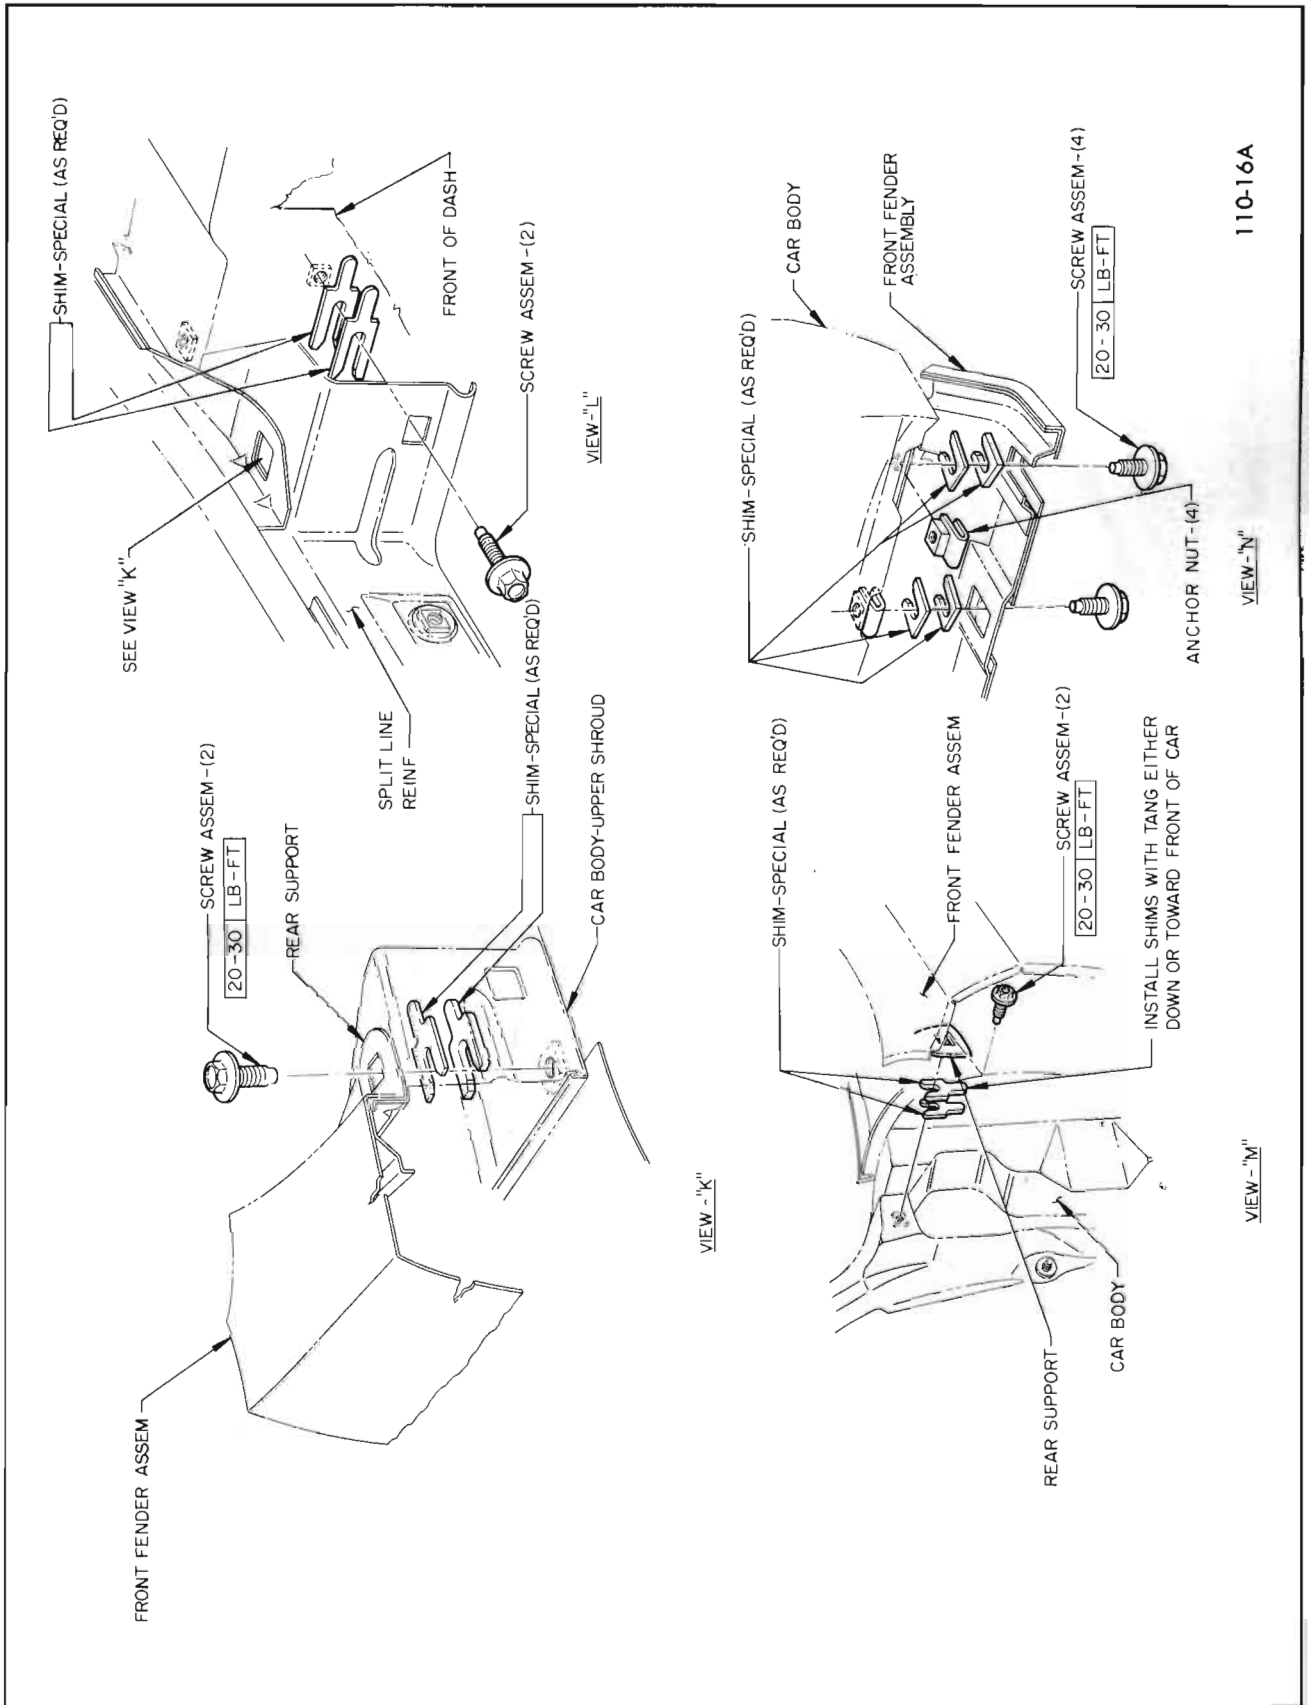

Figure 110-16 45-46-48000 Fender to Cowl Attachment Points
lower rear edge of fender to rocker panel. See Figure 110-16 (View N).
13. Remove one bolt securing upper rear portion of fender to hinge pillar. See Figure 110-16 (View M).
14. Remove two bolts securing upper rear portion of fender to upper portion of cowl. See Figure 110-16 (Views K and L).